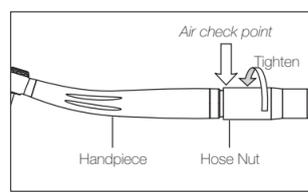
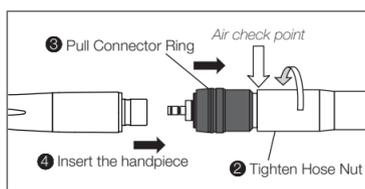

Fig. 1
Fig. 2
- 2) Tighten the Hose Nut. (Fig.1)
Set the Air pressure at the arrowed point on Fig. 1 and Fig. 2. The setting values are on the specification table. Do not exceed the recommended air pressure.